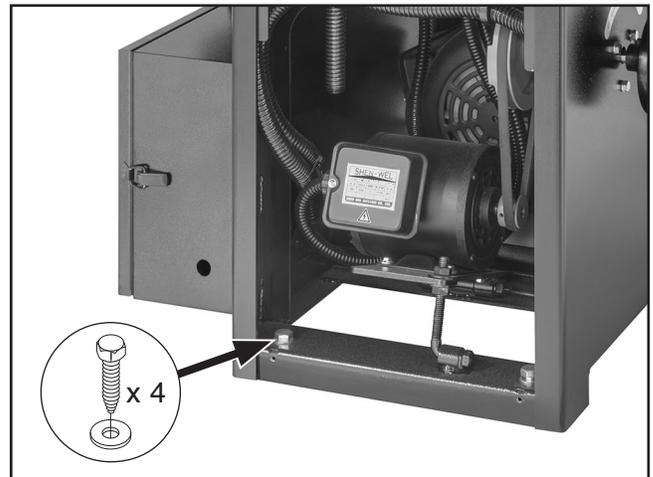

Figure 14. Location of lag screws and flat washers.
4. Remove (4) lag screws and flat washers securing machine to pallet (see **Figure 14**).